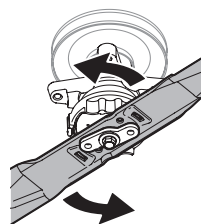

Figure 4
- While holding the collar in the upward position, rotate the blade counter-clockwise to free it from the collar. See Figure 4.